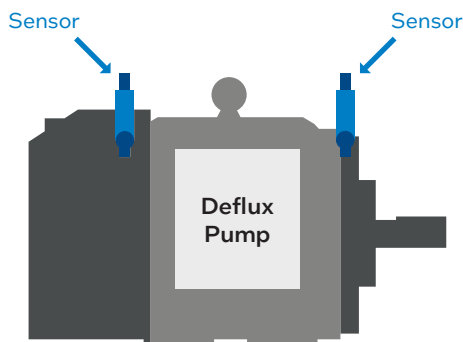
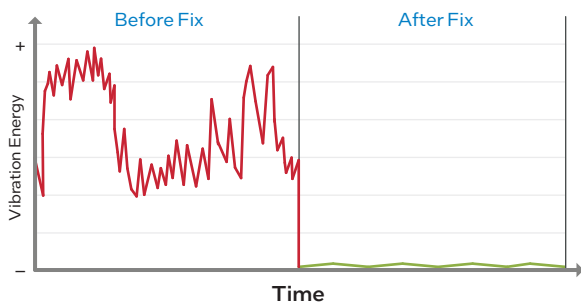

Figure 2. Placement of the pump vibration sensor.
Figure 3. The IIoT dashboard shows excessive vibration from a deflux pump (indicating it needs to be fixed) and the results after the pump has been fixed.
**Solution:** We deployed multiple vibration sensors for each deflux pump to enable continuous vibration monitoring to detect early marginal excess vibration signals. Figure 2 depicts the location of the vibration sensor; Figure 3 shows the IIoT dashboard, comparing healthy pump vibration data to data from a pump exhibiting excessive vibration.